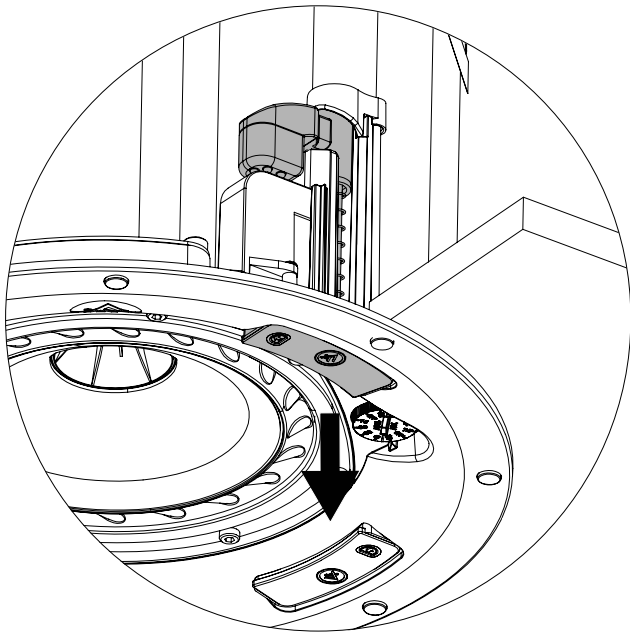

Figure 25
- Disengage first T-handle from default installed position (Figure 25).